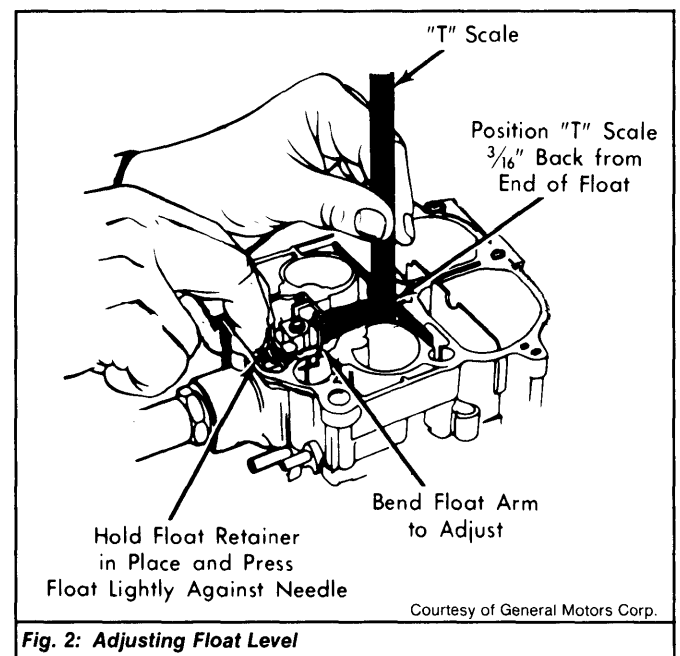

Fig. 2: Adjusting Float Level
- 1) Remove air horn. Remove gasket from main body casting. Hold float retainer firmly in place. See Fig. 2.